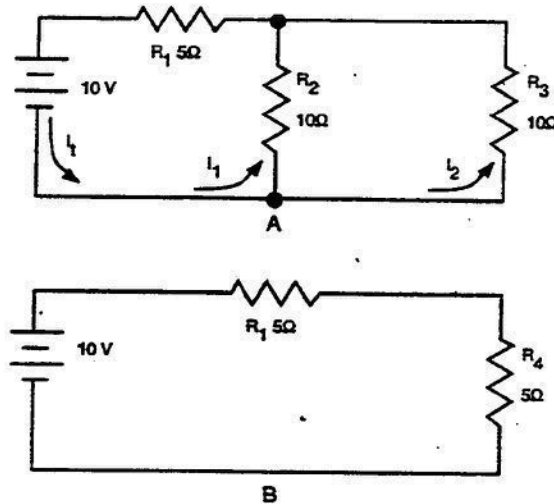

Figure 2-17. Series-parallel DC circuits.
**Series-parallel DC circuits.** A series-parallel circuit appears to be very complex for a beginner in electronics. However, by applying the same laws and rules we have learned for series and parallel circuits, series-parallel circuits are not as complex as they appear. A series-parallel circuit consists of groups of parallel resistance in series with other resistances. An example is shown in part A of figure 2-17.